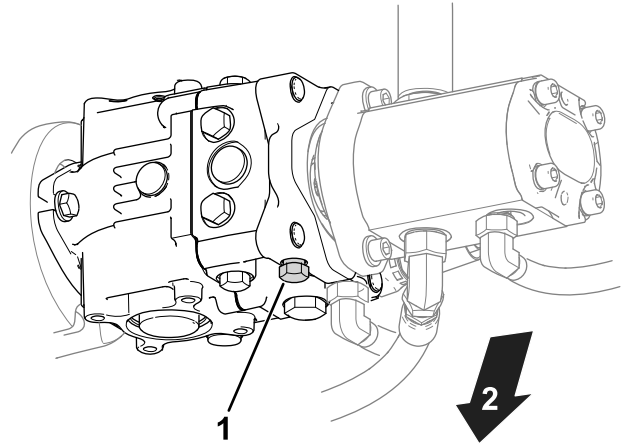

Figure 32
1. Locate the bypass valve on the pump (Figure 32).